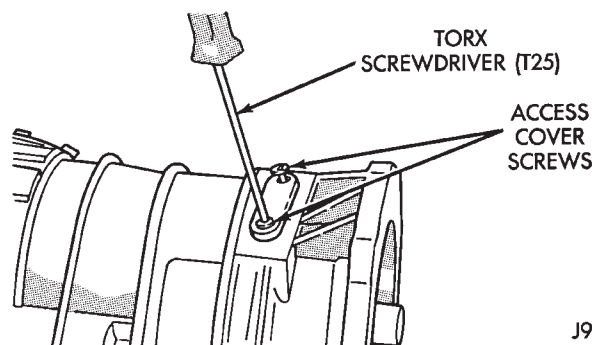

Fig. 242 Locating Ring Access Cover And Gasket Installation
(10) Install locating ring access cover and gasket in overdrive unit case (Fig. 242).